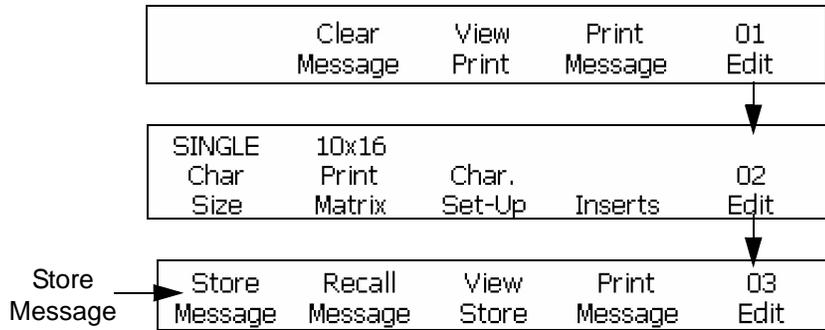

Figure 6-61: Accessing Frame <03 edit>
- 1 Begin in the frame <03 Edit>. Refer to Figure 6-61 on page 6-82.